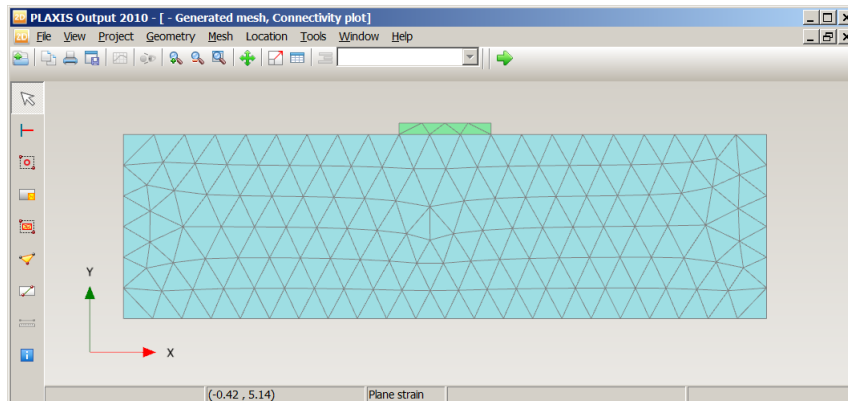

Figure 11: Generated finite element mesh of the geometry around the footing
- Click on the *Generate mesh* button  in the toolbar or select the *Generate* option from the *Mesh* menu. After the generation of the mesh a new window is opened (PLAXIS Output window) in which the generated mesh is presented (see Figure 11).